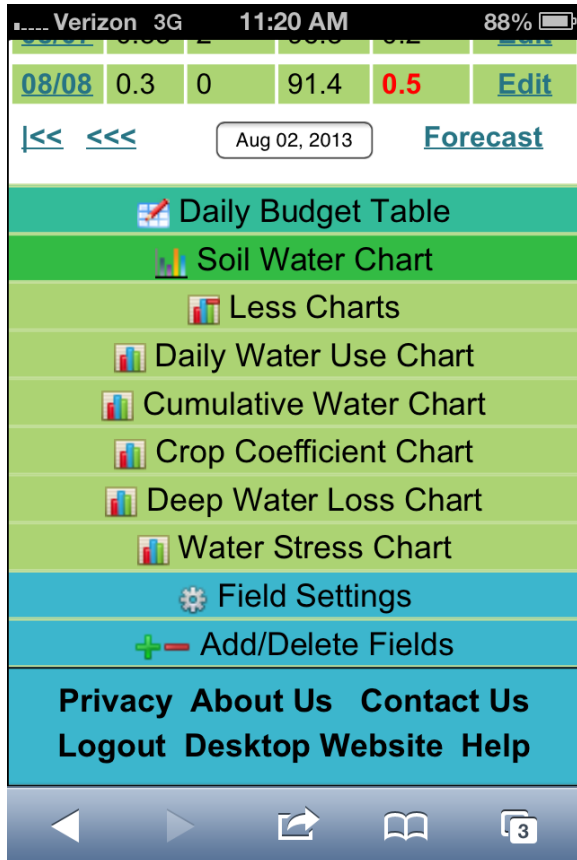

Figure 12. Clicking More Charts
Clicking the “More Charts” button will give you access to the additional charts shown in Figure 12 that help you understand and evaluate your field and your soil water balance model. Clicking “Less Charts” hides these charts again.
**Send Me Notifications:** Check this box to get email or text message notifications sent to you on the status of your field. If you choose to be notified by email you will be asked for your email address. If you choose to be notified by text (SMS) message you will be asked for your mobile phone number and your service provider. You can also choose what time of day the notification will be sent. You can also elect to only be notified when your percent of available soil water has been depleted to less than an entered threshold value. (See Figure 12)